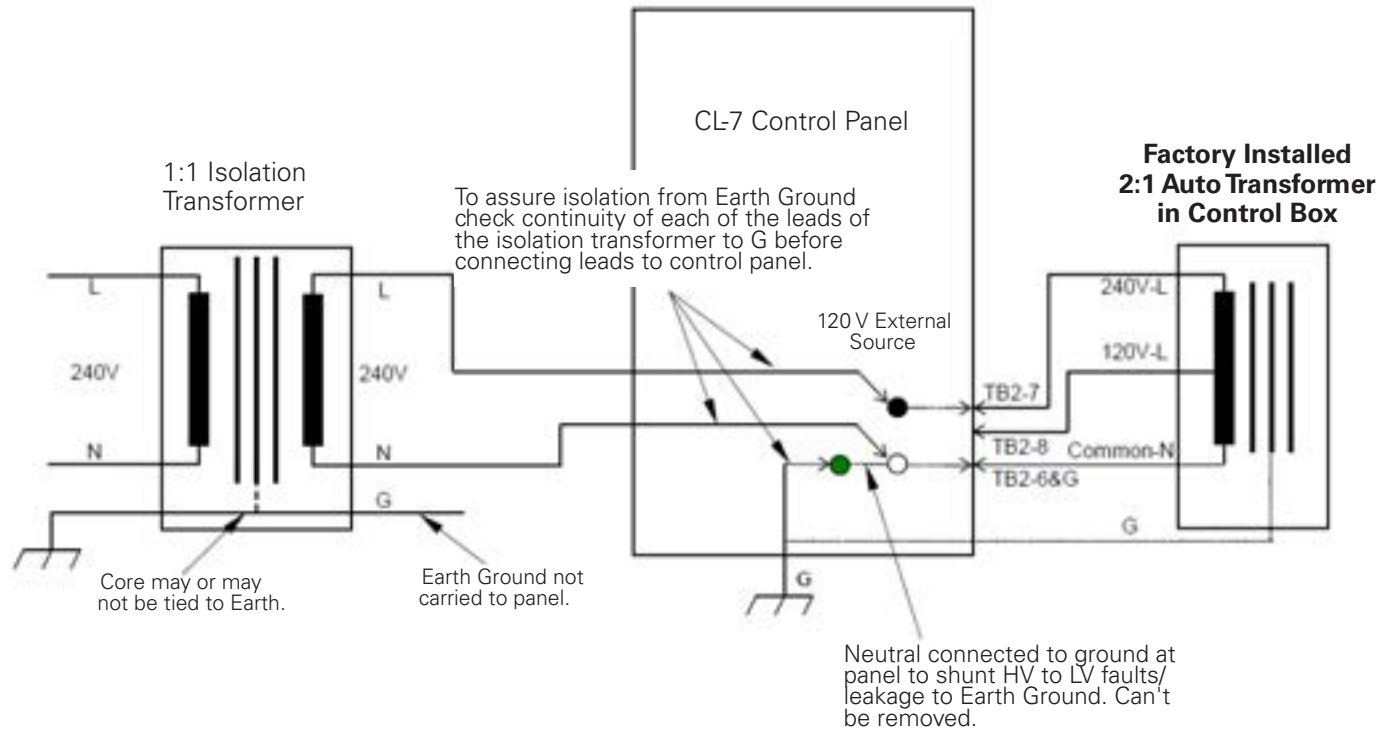

Figure 1-6. 240 Vac Application with Eaton's Cooper Power series 240 V Control - Option 1.
The 240 Vac external source must be completely isolated. In most cases an isolation transformer is needed. This isolation transformer must isolate both the neutral and line on the secondary side. Also, the neutral and ground on the secondary side should not be bonded or connected. To check isolation from earth ground, check the continuity of each lead on the isolation transformer with respect to ground (G). Check this before connecting the leads to the control panel. See Figure 1-6.